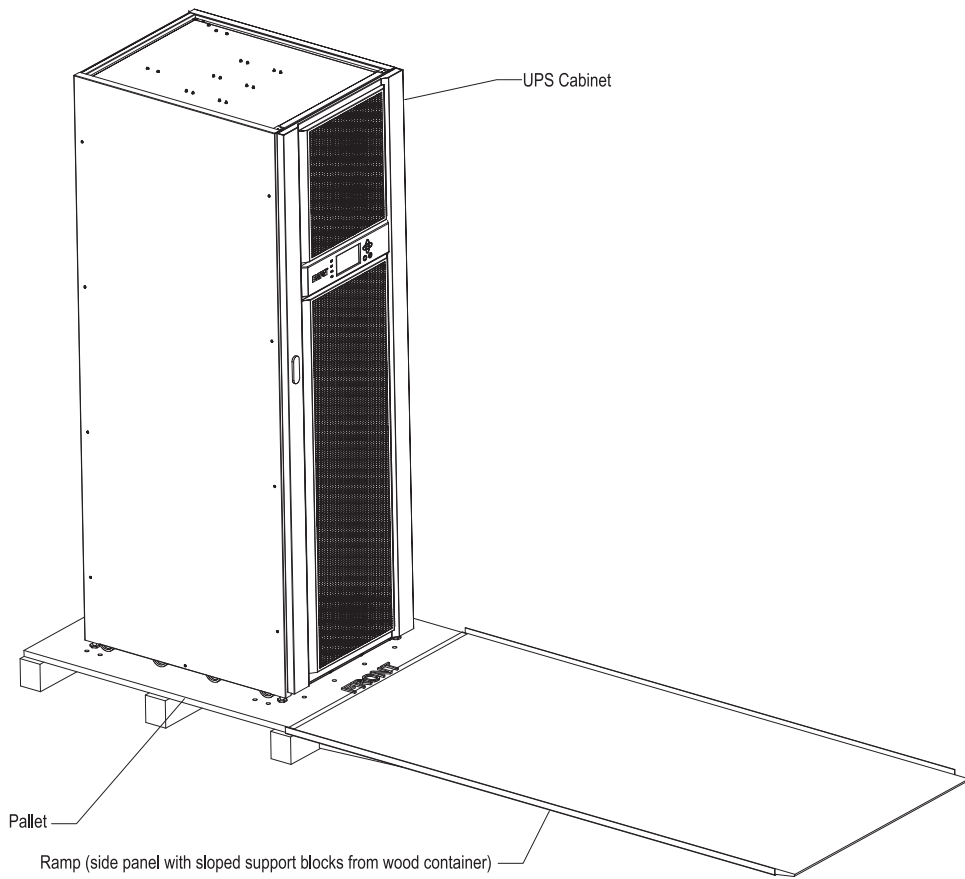

Figure 4-2: Attaching the ramp to the pallet
3. Attach the ramp to the front of the pallet (see Figure 4-2 below):